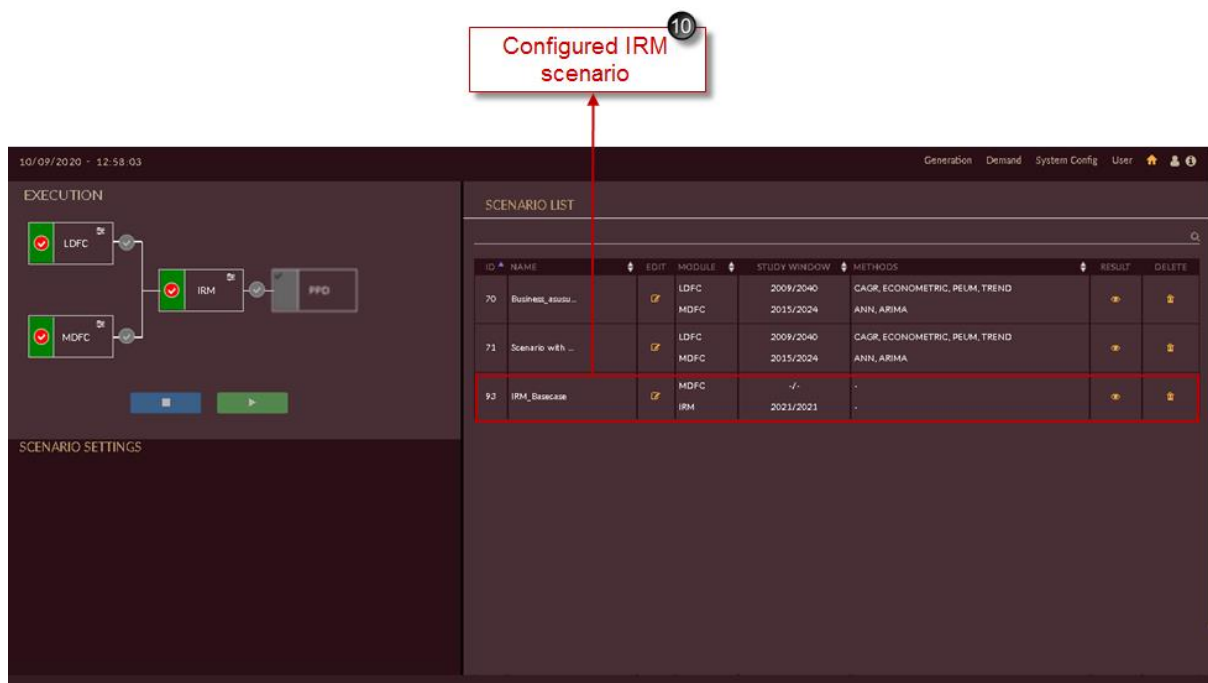

Figure 190. IRM Scenario in Scenario List Page
10. The scenario appears in the scenario list as shown in Figure 190.